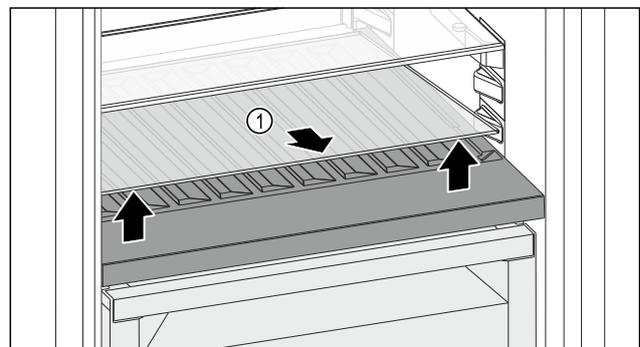

Fig. 120
- ▶ Lift the glass shelf Fig. 120 (1) at the front and remove.
- ▶ Store the glass shelf Fig. 120 (1) in a safe place outside the appliance.